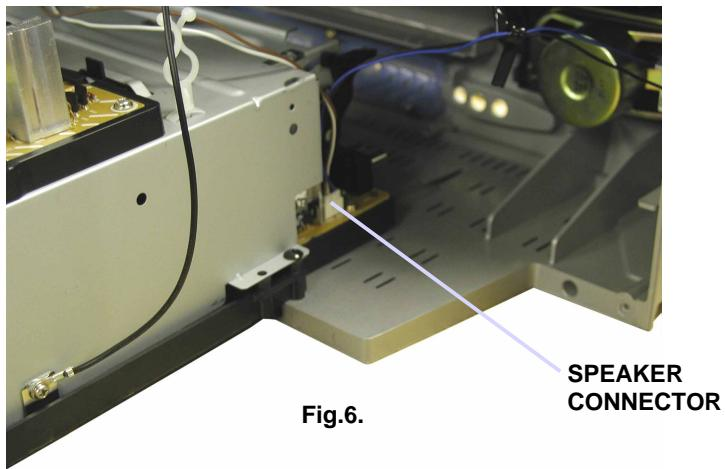

Fig.6.
3. Remove the speaker connector as shown in **Fig.6.**